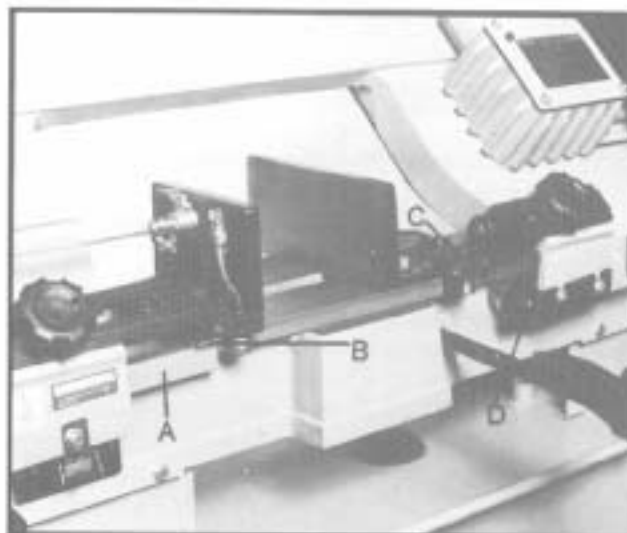

Fig. 9
3. Remove red blade guard assembly (A, Fig. 9) by removing two screws (B).